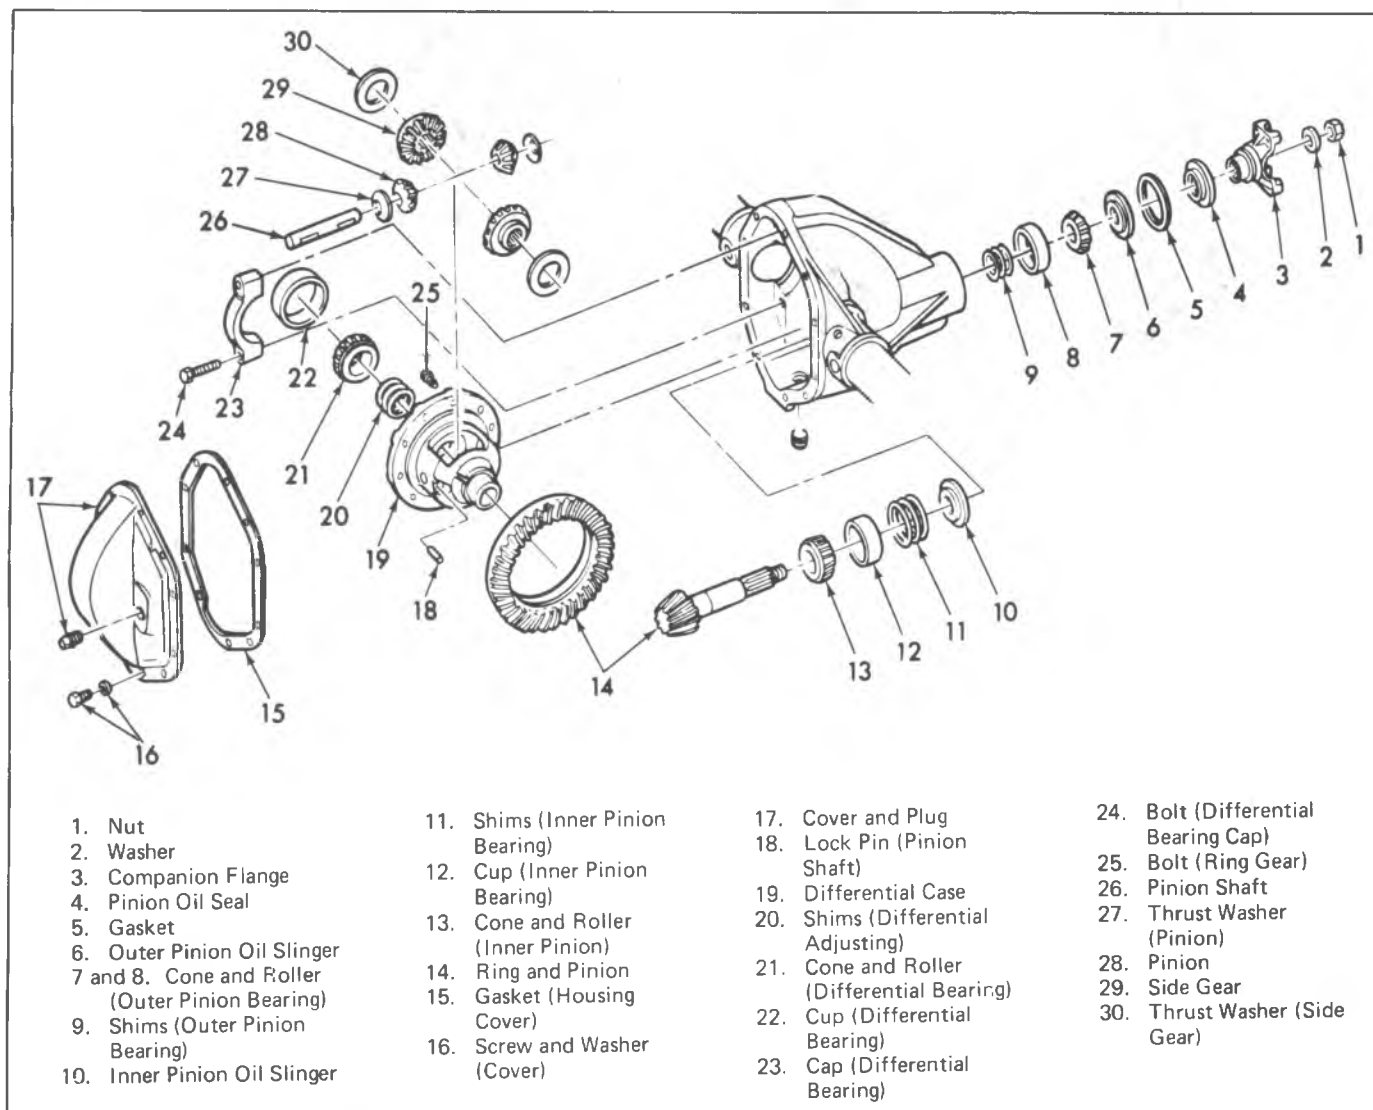

Fig. 14F-Dana Differential With 9-3/4" Ring Gear - Exploded View
1. The differential side bearing shims are located between the side bearing cone and roller assembly and the differential case. See figure 14F. These bearings are of the tapered roller design and are preloaded. In order to remove the differential case the carrier must be spread.